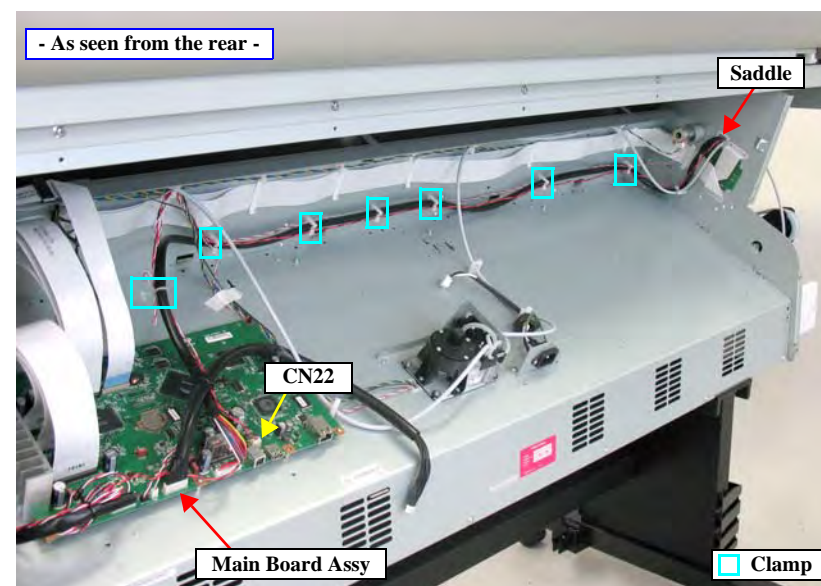

Figure 4-39. Releasing the harnesses
9. Release the cables from the seven clamps and the saddle. See Figure 4-39.